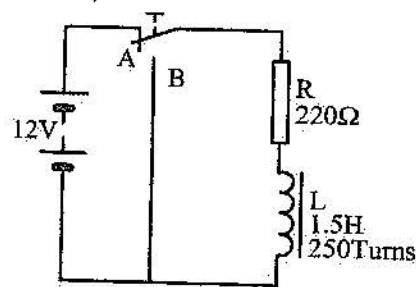

Figure 2
19. For the circuit of figure 2, determine: